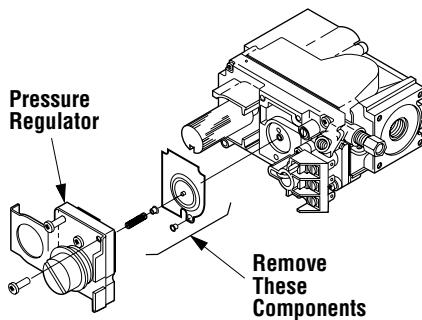

Figure 60
Step 4. SIT Systems - Refer to **Figure 60** and the instructions provided with the kit. Using a Torx T20, remove and discard the three pressure regulator mounting screws. Remove the pressure regulator, spring, poppet, diaphragm and bushing. **Discard all removed components.** Ensure the rubber gasket installed on the back of the replacement pressure regulator is properly positioned and install the new pressure regulator using the new screws supplied with the kit. Tighten screws to 25 In. lb. torque.